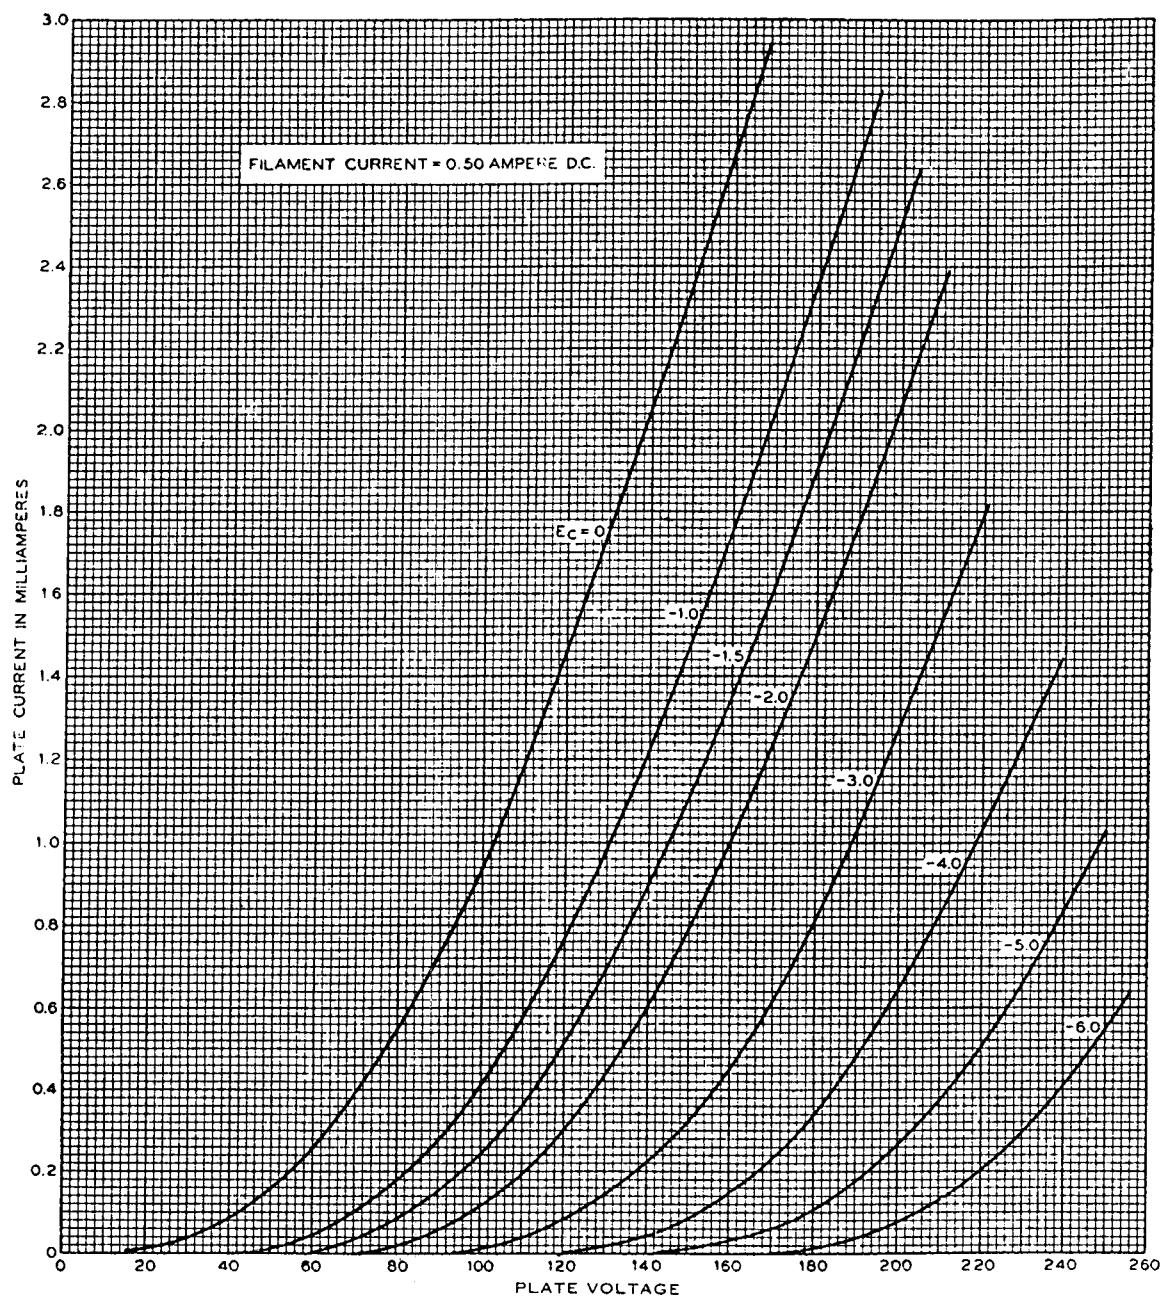

FIG. 7
**Characteristics**—Plate current characteristics of a typical 102F tube are shown in Figure 3 as functions of grid voltage for several values of plate voltage. The grid and plate voltages are measured from the negative end of the filament. Corresponding amplification factor, plate resistance, and transconductance characteristics are given in Figures 4, 5 and 6, respectively. Plate current characteristics as functions of plate voltage are shown in Figure 7 for several values of grid voltage.